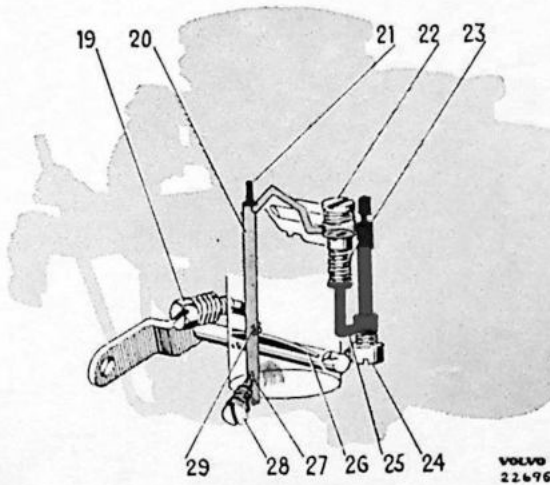

Fig. 12. Idling.
When the engine is idling, the throttle is almost completely closed (adjusted by means of a screw 19, Fig. 12) whereby the vacuum around and under the throttle is large. There is then a strong suction effect through the idling hole (27) and fuel is thereby sucked up from the channel above the main jet (24) through a calibrated hole (25) and the idling jet (23) to the idling channel which terminates in the carburetor throat with one larger (27) and two smaller holes (29). Air is supplied through a hole (21) under the choke and through an air jet (22) above the idling jet.